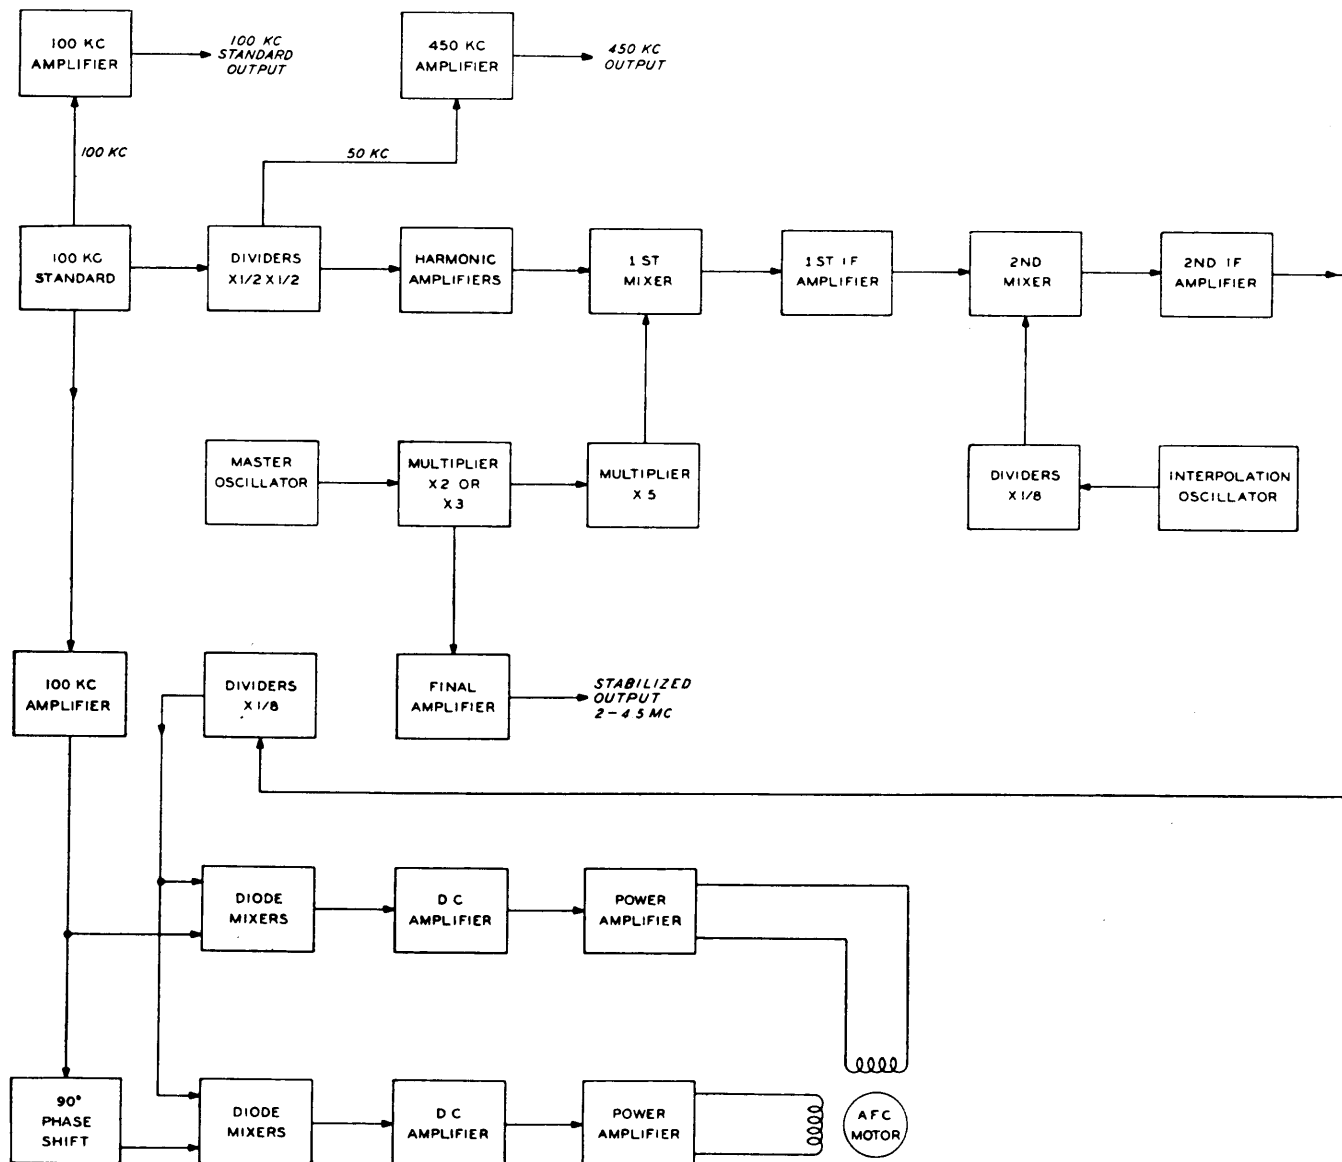

Figure 2-3. Functional Block Diagram — RF Oscillator O-91A/FRT-5
(2) RF OSCILLATOR O-91A/FRT-5. — RF Oscillator O-91A/FRT-5 is a very stable automatic frequency-controlled (AFC) oscillator which covers a frequency range of 2 mc to 4.5 mc. It employs a master oscillator and amplifiers in conjunction with automatic frequency control circuits which maintain the output frequency constant at any selected value within its range. The actual circuits that provide power output to drive the transmitter are marked with an orange arrow on the chassis and are the master oscillator (V131), multiplier (V112) and final amplifier (V114). The remainder of the circuits, with the exception of the 450-kc amplifier (V106) and the 100-kc amplifier (V107), are the frequency control circuits. The 450-kc amplifier and the 100-kc amplifier are both provided with external jacks so that the output of either one may be used on any external equipment requiring a frequency source of this type. Figure 2-3 is a block diagram of the oscillator.